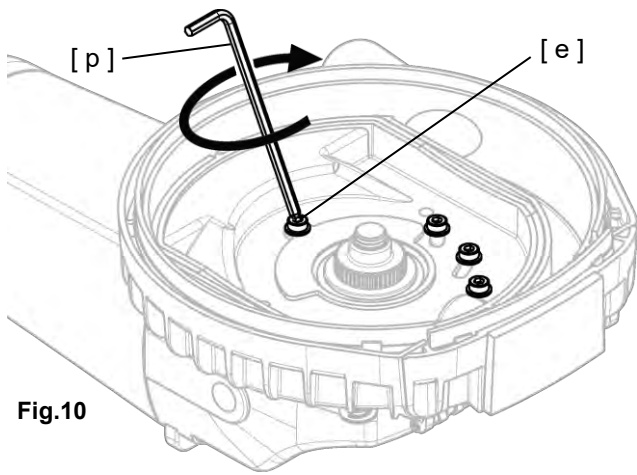

Fig.10
6. Tighten [e] Flange Bolt x 4pcs by [p] Hex Wrench. (Fig.10)